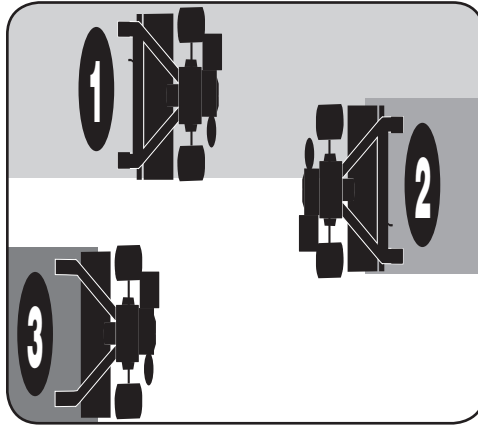

Figure 4-14
- If the garden size will not permit lengthwise and then crosswise tilling, then overlap the first passes by  $\frac{1}{2}$  a tiller width, followed by successive passes at  $\frac{1}{4}$  width. See Figure 4-14.